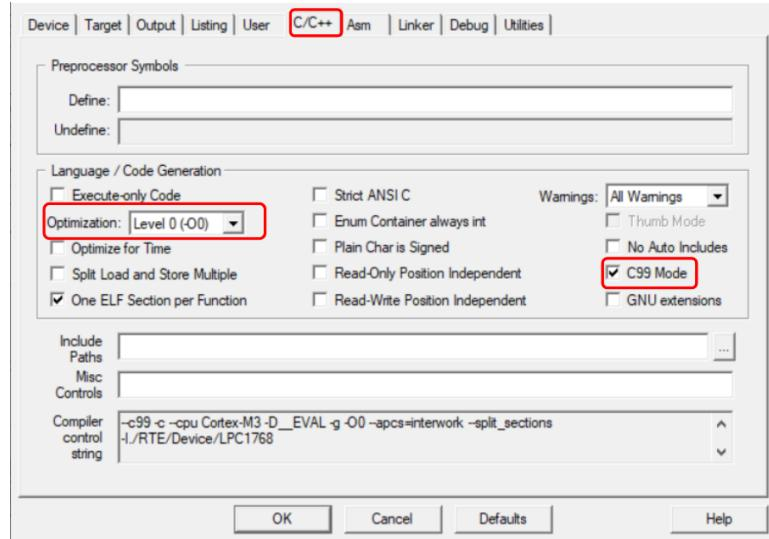

Figure 8.13: Keil IDE: Target Options C/C++ Tab Configuration
2. Configure the C/C++ tab as shown in Figure 8.13. To enable c99, we need to check the C99 Mode box. We also want to keep the default optimization level of zero.